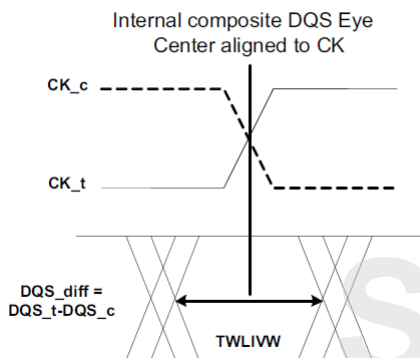

Figure 25. DQS_t/DQS_c to CK_t/CK_c timings at the DRAM pins referenced from the internal latch
28) t_{WLIVW} is defined in a similar manner to t_{DQSV} , except that here it is a DQS input valid window with respect to CK. This would need to account for all VT (voltage and temperature) drift terms between CK and DQS within the DRAM that affect the write-leveling input valid window. The DQS input mask for timing with respect to CK is shown in Figure 25. The "total" mask (t_{WLIVW}) defines the time the input signal must not encroach in order for the DQS input to be successfully captured by CK with a BER of lower than t_{bd} . The mask is a receiver property and it is not the valid data-eye.